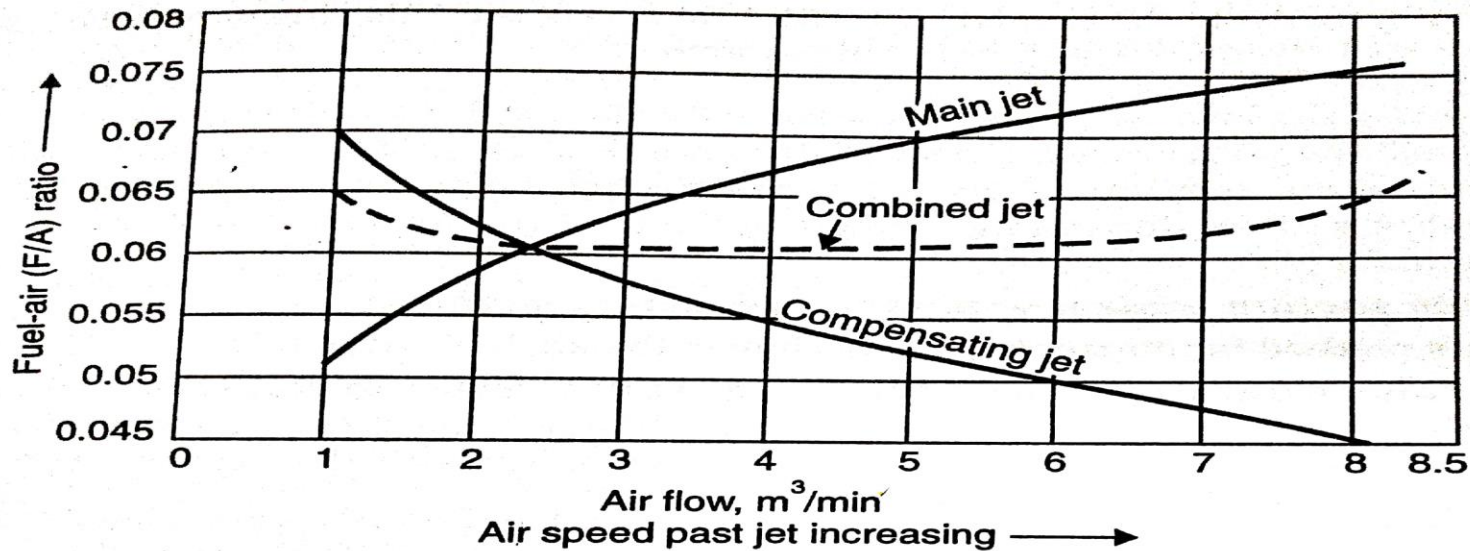

Fig. 11.7. Variation of F/A ratio vs. air flow with main and compensating jets.
- As the air flow increases, the level of fuel in the compensating well decreases, thus reducing the fuel supply through the compensating jet. The compensating jet thus progressively makes the mixture leaner as the main jet progressively makes the mixture richer, the sum of the two remaining constant as shown in Fig 11.7. The main jet and compensating curves are more less reciprocals of each other.